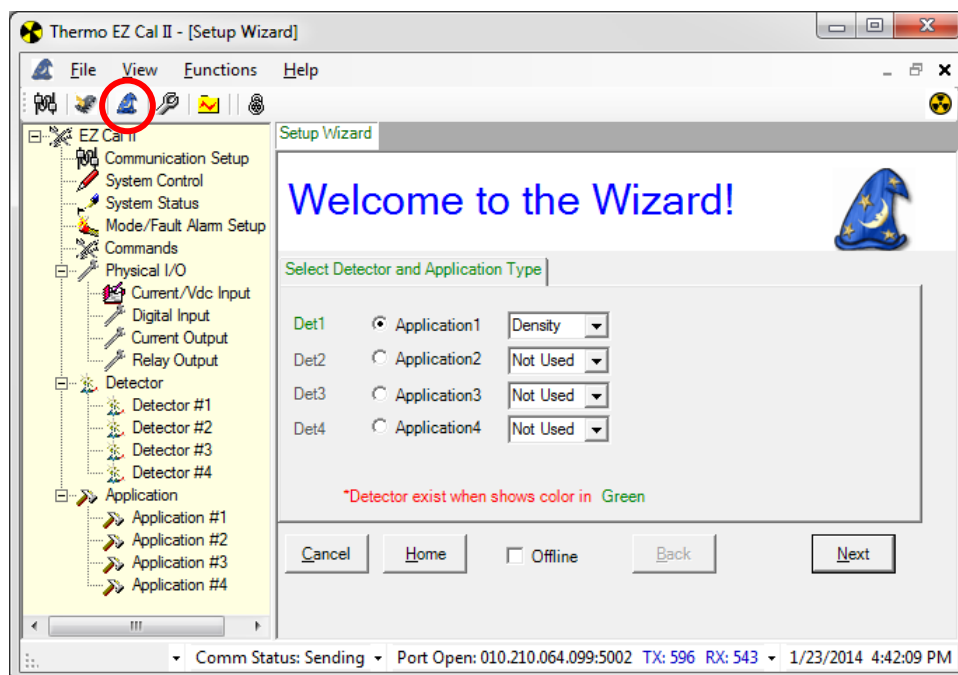

Figure 3-3. Detector and Application Type Selection
- Home – Returns the user to the Detector and Application Type Selection screen, Figure 3-3.